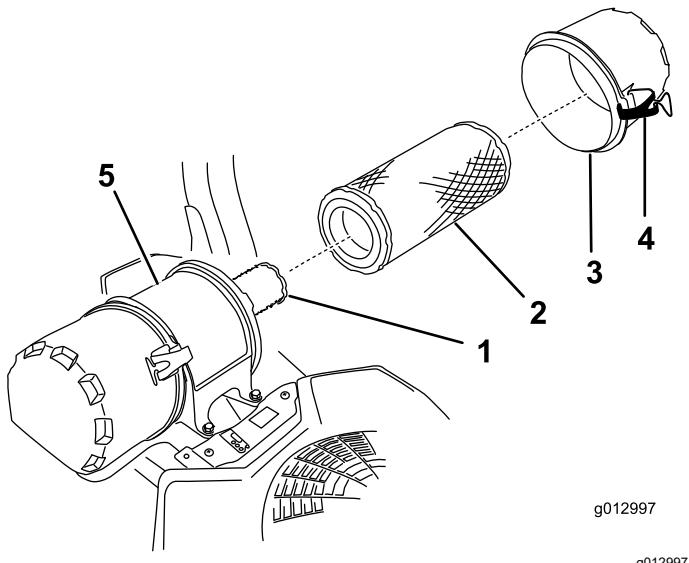

Figure 59
6. Release the latches on the air cleaner and pull the air-cleaner cover off the air-cleaner body (Figure 59).
8. Gently slide the primary filter out of the air-cleaner body (Figure 59).
2. If you are replacing the safety filter, carefully slide it into the filter body (Figure 59).
3. Carefully slide the primary filter over the safety filter (Figure 59).
4. Install the air-cleaner cover and secure the latches (Figure 59).